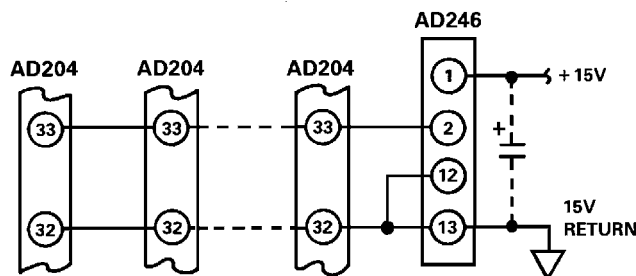

Figure 3b.
**Powering the AD204.** The AD204 gets its power from an externally supplied clock signal (a 15 V p-p square wave with a nominal frequency of 25 kHz) as shown in Figure 3b.